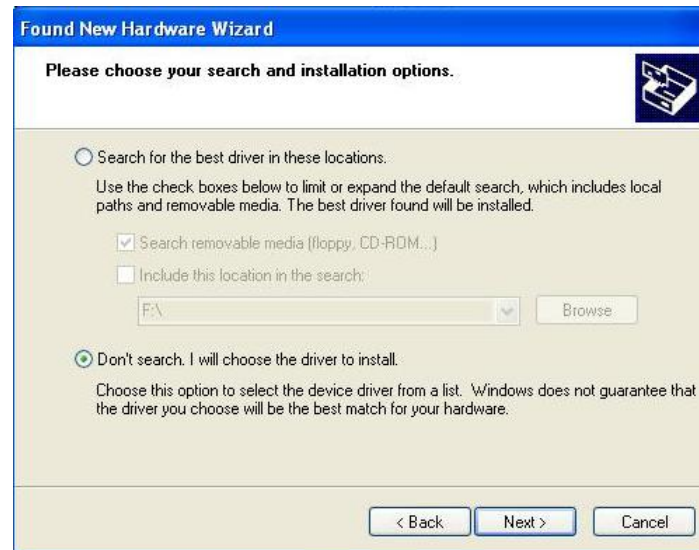

Fig.3.1.4 Driver installation wizard
(3) Select “Don’t search. I will choose the driver to install”, and click Next, as shown in Fig.3.1.4.